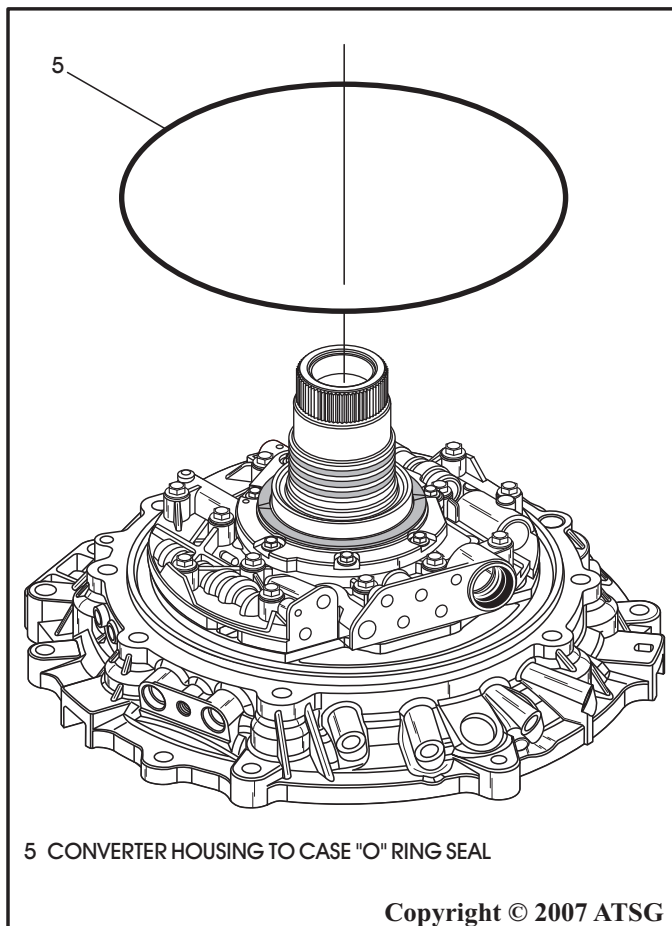

Figure 166
28. Lay the completed converter housing and oil pump assembly on flat work surface, as shown in Figure 166.
29. Install new converter housing to case "O" ring seal, as shown in Figure 166, and lube with a small amount of Trans-Jel®.